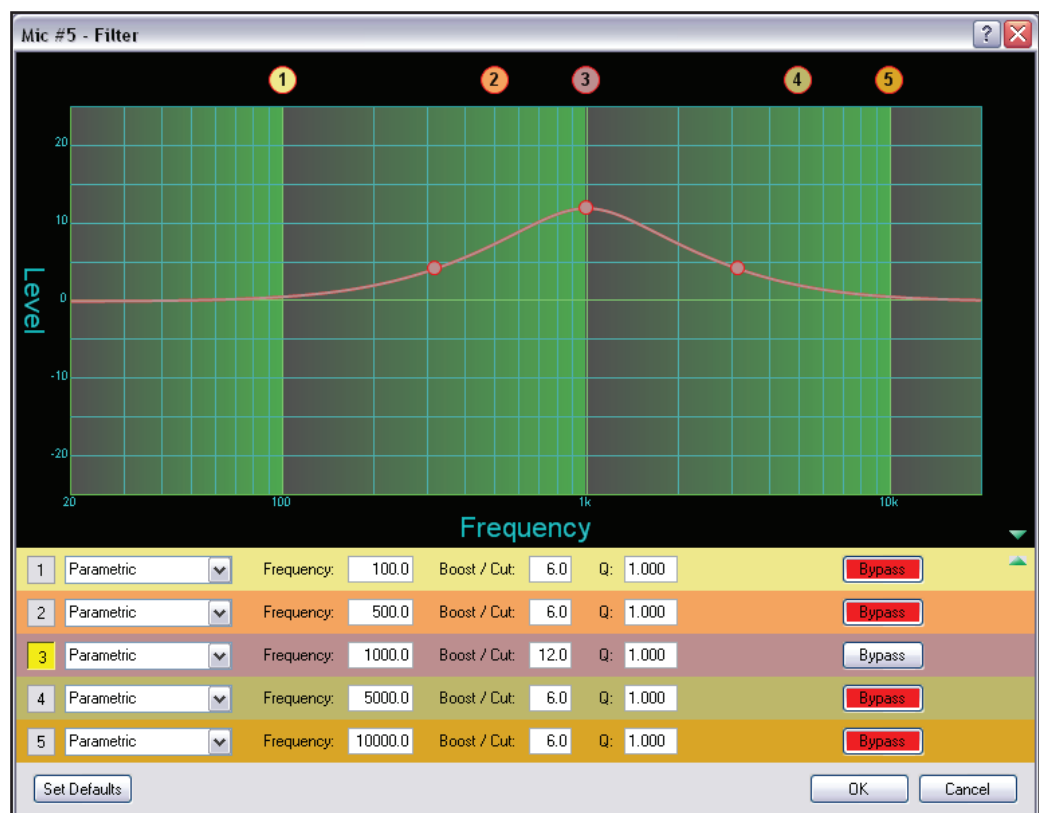

Figure 30. Parametric Filter at 1000 Hz, Q: 1.000
To demonstrate how Q affects the filter, the following filter block (see figure 30) containing five parametric filters centered at different frequencies but with the same Q of 1.0. The filter in focus (3) has a center frequency of 1000 Hz boosting that frequency +12 dB over a Q of 1.0. Note the markers on either side of the peak frequency are at about 300 Hz on the left and 3000 Hz on the right, a bandwidth of about 2700 Hz.